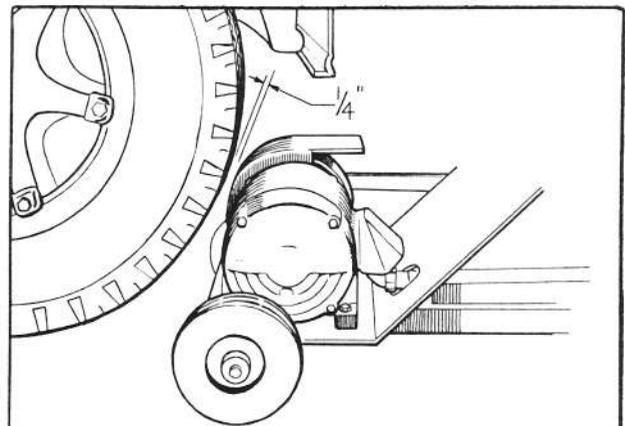

FIG. 2 CHECK RADIAL RUNOUT
5. Check for radial runout. Position balancer so that spinner will contact tire tread squarely when balancer is rolled forward toward wheel. Depress brake lever. Roll balancer forward until brake shroud is  $\frac{1}{4}$ " from tire tread. See Figure 2.